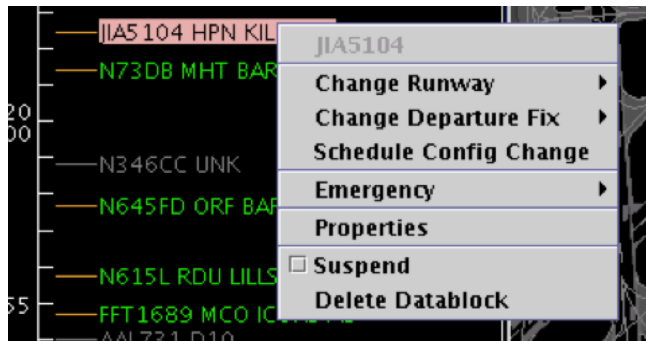
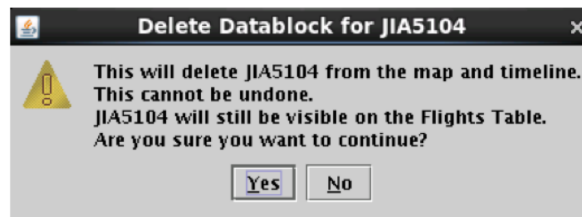

Figure 93. Right-click to delete a flight datablock.
Figure 94. Confirmation message for deleting a flight’s datablock.
**Step 2:** Select “Delete Datablock” from the dropdown menu (Figure 93). A confirmation message will populate (Figure 94).
The Flight Properties window can be accessed using the flight’s right-click menu as well (select “Properties” option shown in Figure 93). This window displays flight-specific information for individual flights (Figure 96). Once open, the Flight Properties window lists the flight’s callsign in the window’s title bar. The following table describes each of the items in the Flight Properties window.